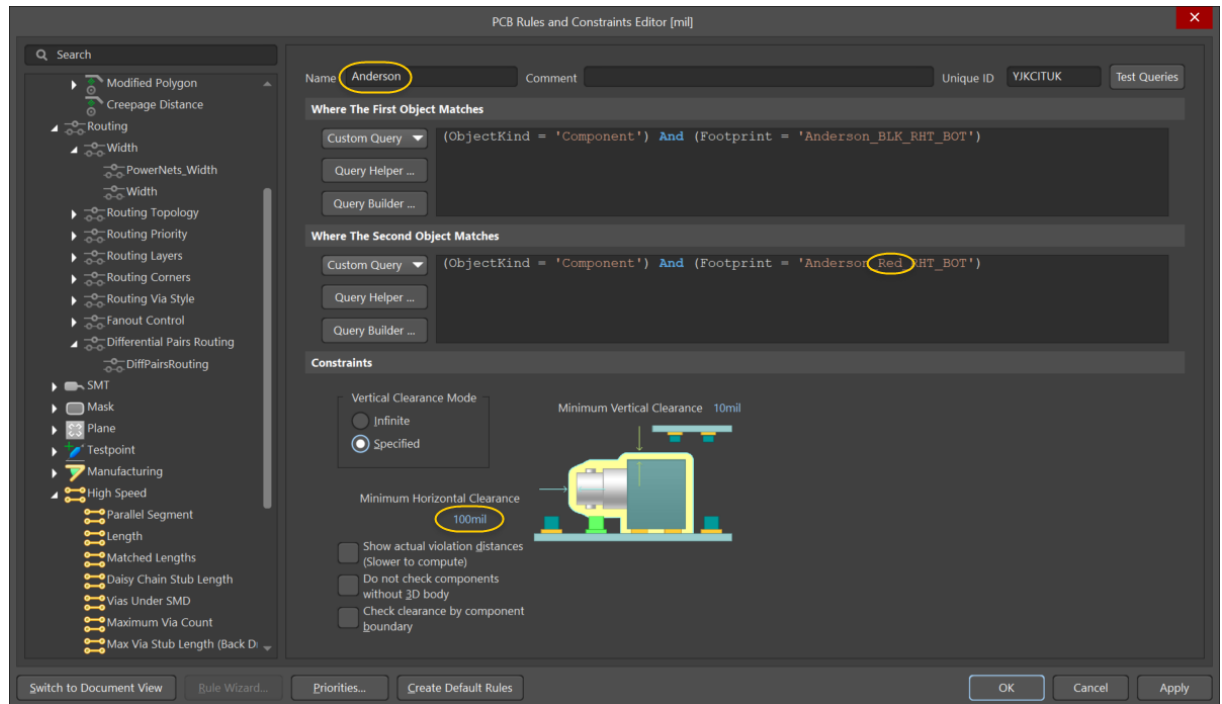

Figure 11. Anderson Component Clearance rule definition
32. We will define a component clearance constraint between components of the Anderson_BLK_RHT_BOT footprint and components of the Anderson_Red_RHT_BOT footprint using Figure 11 below.